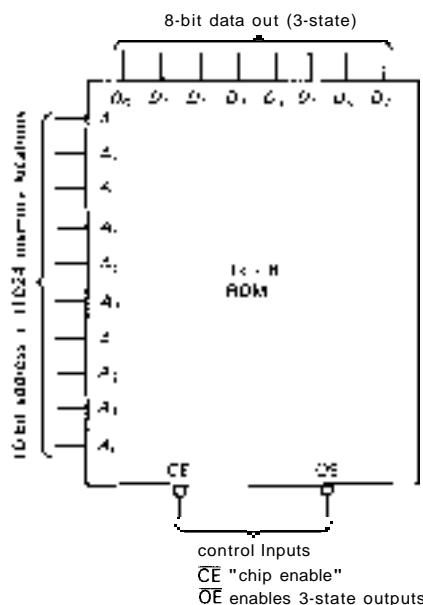

Figure 8.43
**ROM.** A ROM, or read-only memory, holds a bit pattern (typically 4 or 8 bits, parallel output) for each distinct address applied to its input. For example, a  $1K \times 8$  ROM gives eight output bits for each of 1024 input states, specified by a 10-bit input address (Fig. 8.43). Any combinational truth table can therefore be programmed into a ROM, provided there are enough input (address) lines. For example, the  $1K \times 8$  ROM above could be used to implement a 4-bit by 4-bit multiplier; in this case the limitation is the "width" (8 bits), not the "depth" (10 bits).